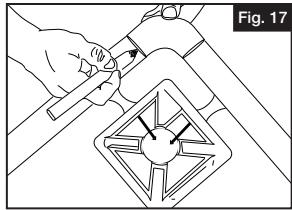

Fig. 17
- 2.** Place the corner in line with each lineal. Scribe and cut the lineals (Fig. 17).